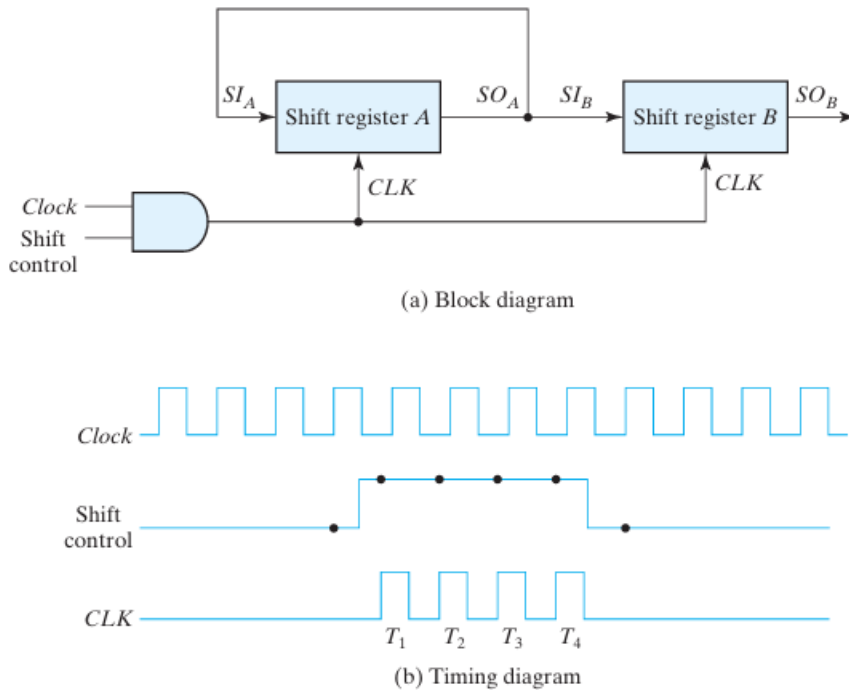

FIGURE 6.4
When data is transferred and altered bit by bit, a digital system's data path is said to be operating in serial mode. By moving the bits from the source register to the destination register, information is transferred one bit at a time. In contrast to this kind of transfer, parallel transfer transfers each bit in the register one at a time. Shift registers are used in the serial transfer of data from register A to register B, as the block diagram of Fig. 6.4 (a) illustrates. Register A's serial output (SO) and register B's serial input (SI) are linked. To guard against the data being lost from the source register, the information in register A is made to circulate by connecting the serial output to its serial input. The initial content of register B is shifted out through its serial output and is lost unless it is transferred to a third shift register. The shift control input determines when and how many times the registers are shifted. For illustration here, this is done with an AND gate that allows clock pulses to pass into the CLK terminals only when the shift control is active.